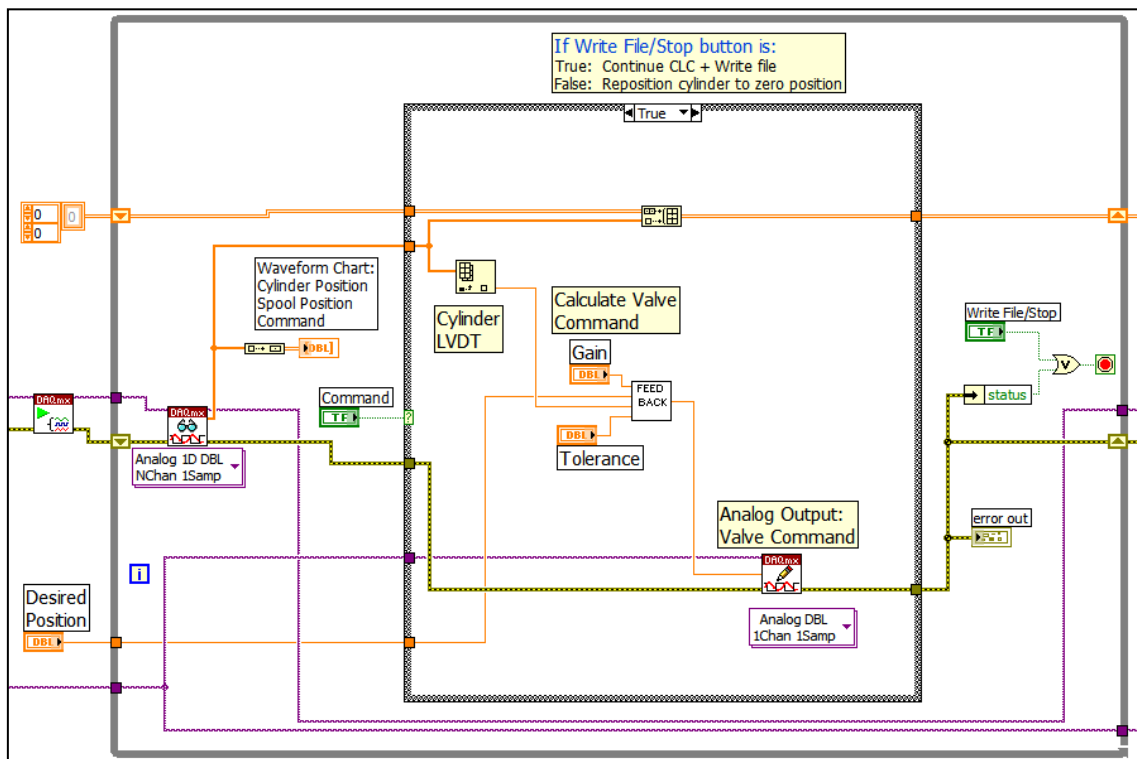

Fig. 5. The Control Loop with the Command Button **ON**
- Because of this **point-by-point** process, this program must run at much **smaller sampling rates** than the open-loop data acquisition program. The **amount** of data collected (and the size of the file) is dependent on the amount of time the user leaves the **Command** button **ON**. The block diagram of this segment with the **Command** button **ON** is shown in Fig 5.